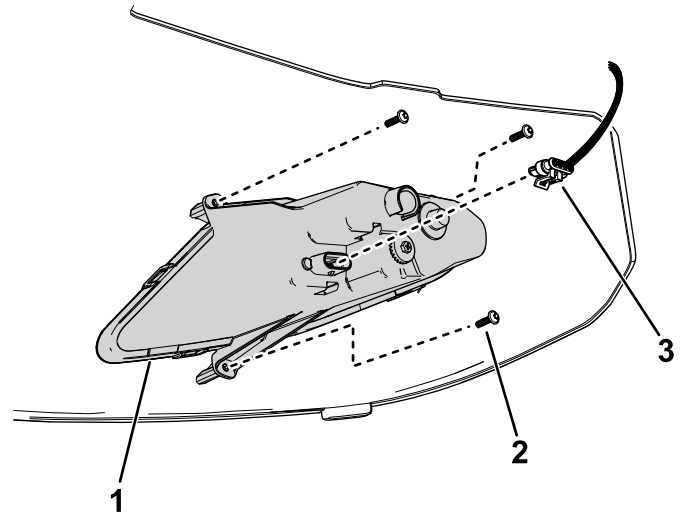

Figure 37
3. Disconnect the wire-harness connector from the headlight connector (Figure 37).
6. Connect the wire-harness connector to the headlight connector (Figure 37).